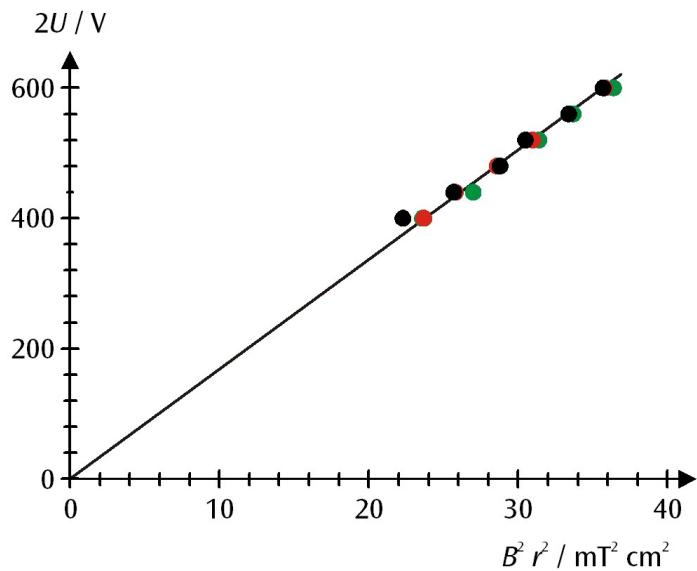

Fig. 3 Graph of r^2B^2 against $2U$ for values as measured (black: $r = 5 \text{ cm}$, red: $r = 4 \text{ cm}$, green: $r = 3 \text{ cm}$)
- For further evaluation, plot the measured values in a graph of r^2B^2 against $2U$ (see Fig. 3).